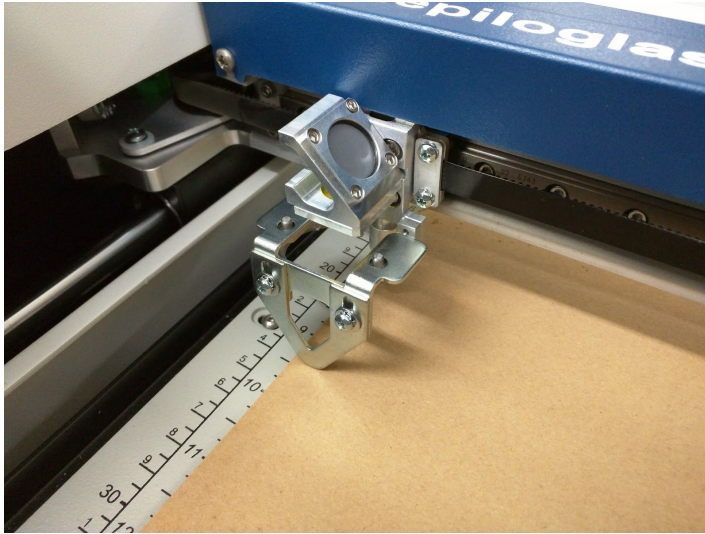

Figure 3: Magnetic focus tool fitted to the head of the laser and cutting bed raised showing focus tool touching material.
6. Press [**FOCUS**], then attach *magnetic focus tool* (see figure 3 below) and adjust the bed height using [**Δ**] and [**∇**] (up and down arrows) until the height tool on the head is just touching your material.